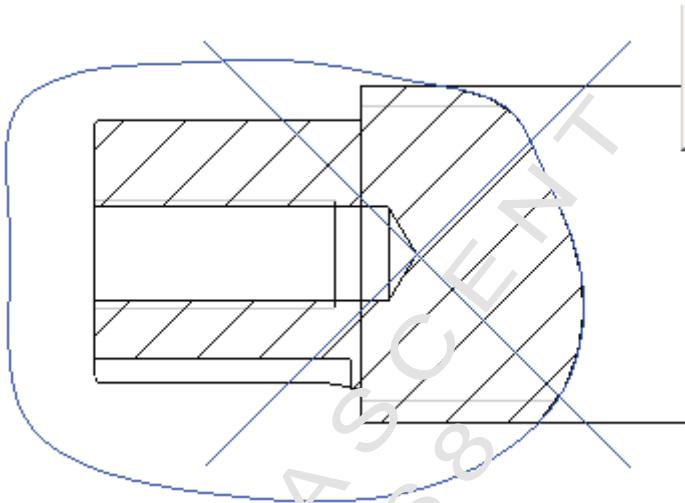

Figure 1–115
10. Sketch a closed spline, as shown in Figure 1–115. This area defines the boundary of the local section.